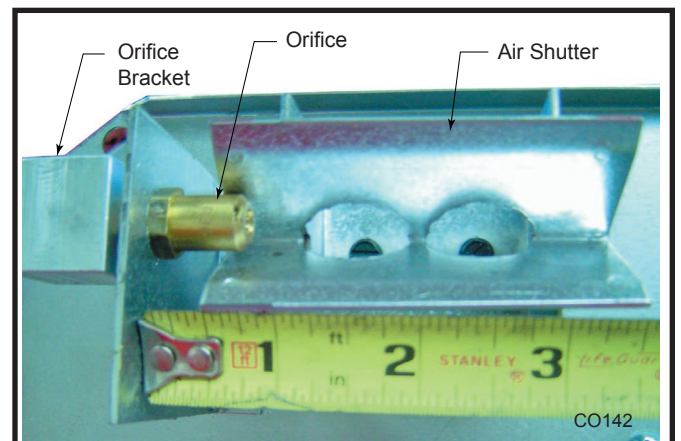

**Fig. 72** Tilt ember bed slightly to correctly place on venturi and air shutter.
2. Carefully remove ember bed by tilting the right side up and lifting out toward the right side of the unit. (Fig. 72)
1. Replace burner making sure venturi on bottom of ember bed aligns with orifice and is seated properly on air shutter assembly. (Fig. 72) Make sure burner is slid into place at a slight angle and opposite to how it was removed. When burner is slid into place, the three (3) pem studs should slide down through clearance holes into the bottom of the control panel.